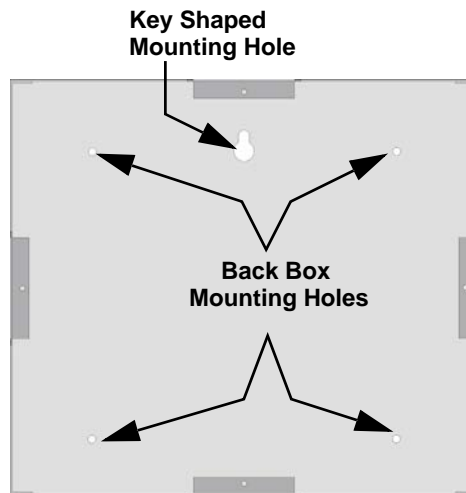

Figure 4.26 Back Box Surface Mount Holes
2. To properly mount the back box, insert a single screw into the key shaped mounting hole. Do not tighten all the way. See Figure 4.26.